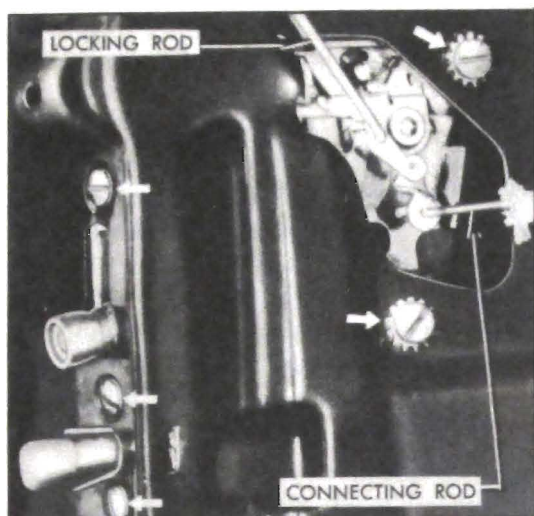

Figure 13-6—Door Lock Attaching Screws
5. Remove lock attaching screws and lock-washers—two on door inner panel and three on lock pillar facing. See figure 13-6.